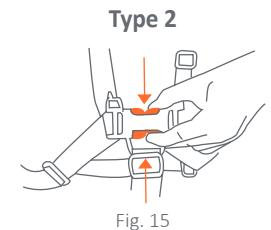

Fig. 15
15) • To release, apply pressure to both sides of each male clip until the clip is released (Fig. 15).